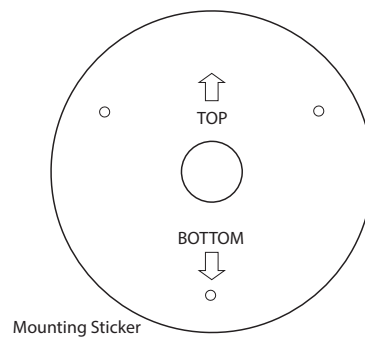

Fig. 3.12
3. Peel and place the junction box mounting sticker onto the mounting surface where the junction box will be mounted. See Fig. 3.12.